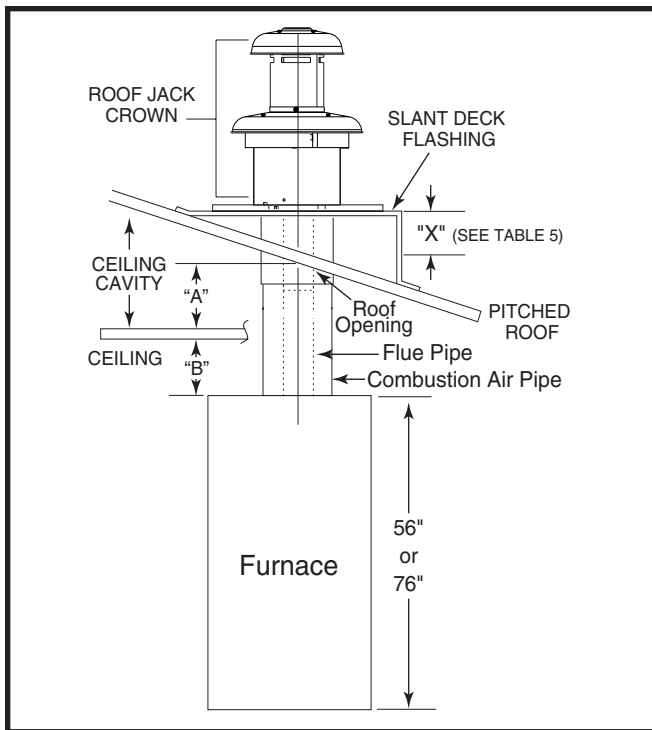

Figure 16. Ceiling Cavity Depth
1. Determine depth of ceiling cavity from center of roof opening to center of ceiling opening noted as "Dimension A" in Figure 16 \(page 11\).
2. Determine ceiling height and subtract height of furnace noted as "Dimension B" in Figure 16.